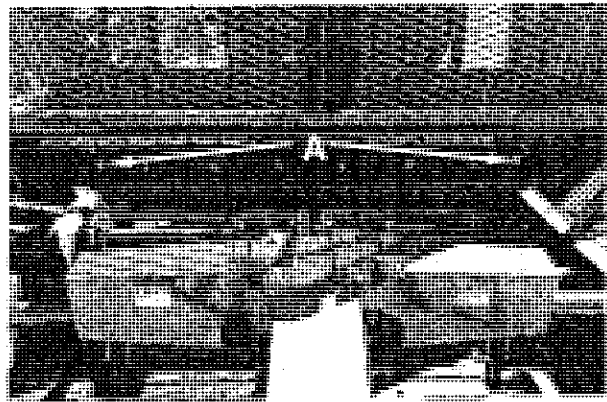

Figure 38. Front Tank Access Panel
An access panel (see Figure 38) is located on the front of the holding tank. This panel may be removed to gain access to the tank for cleaning or maintenance by removing the attaching bolts (A).